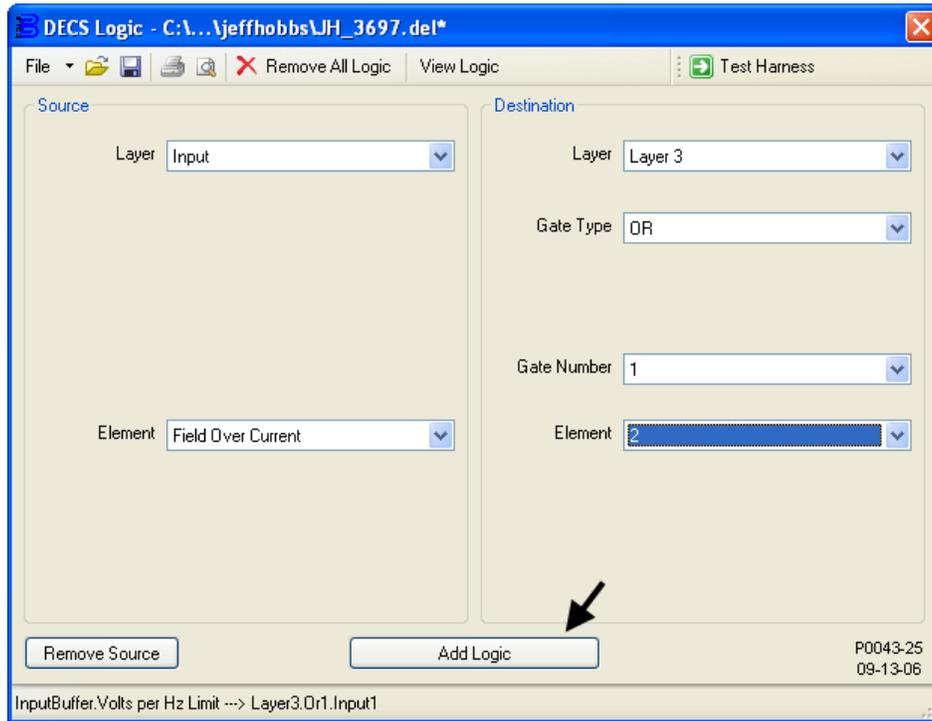

Figure 9-21. Addition of Layer3 InputBuffer.Field Over Current ----> Layer3.Or1.Input2
- Figure 9-21 illustrates the DECS Logic window settings associated with this step. Connect the Field Overcurrent Active input buffer to input 2 of OR gate 1 on logic layer 3. In Table 9-2, this association is identified by “DESTINATION: Layer3 – InputBuffer.Field Over Current → Or1.Input2”.